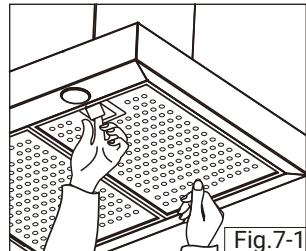
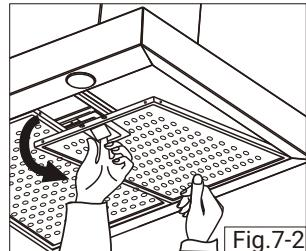

Fig.7-1
Fig.7-2
- (1) Support the grease filter and pull the latch to remove filter (Fig.7-1). Tilt the filter downwards to detach it. (Fig.7-2)
- (2) The grease filter must be cleaned regularly, please wash it once every one to two weeks according to the frequency of use.
- (3) Use non-aggressive detergents to wash filter, either by hand or in the dishwasher which must be set in a low temperature and short cycle.
- (4) Make dry the filter before put back to range hood.